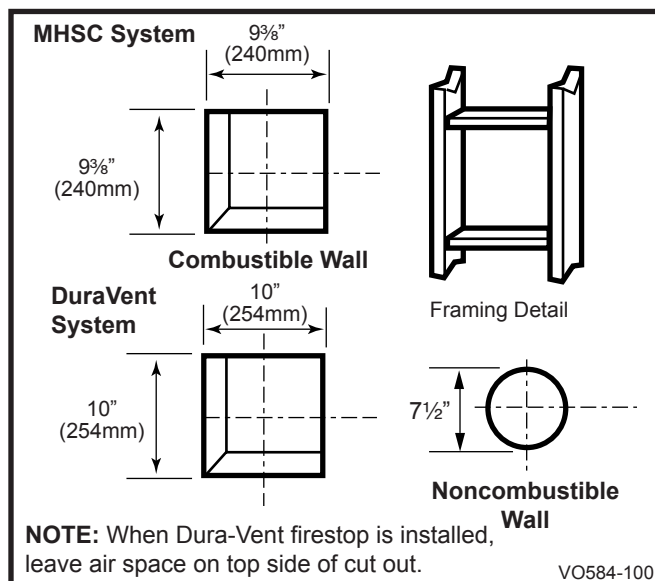

Fig. 24 Locate vent opening.
1. Locate the vent opening on the wall. Refer to Page 7, Figure 5, to determine the opening centerline. It may be necessary to first position the stove and measure to find the hole location. Depending on whether the wall is made of combustible materials, cut the opening to the size shown in Figure 24. Combustible wall openings must be framed as shown in Figure 24.